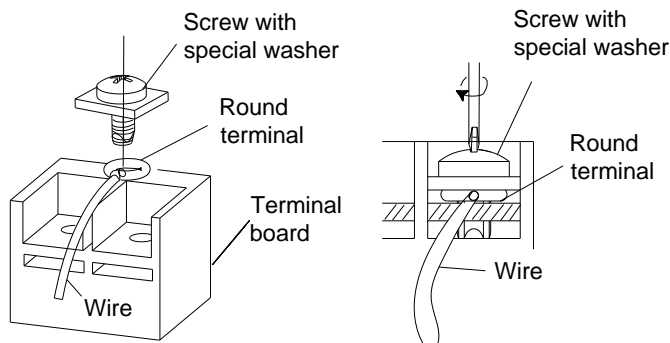

Figure 3-4-2
- 4) Position the round terminal wire, and replace and tighten the terminal screw with a screwdriver (Figure 3-4-2).